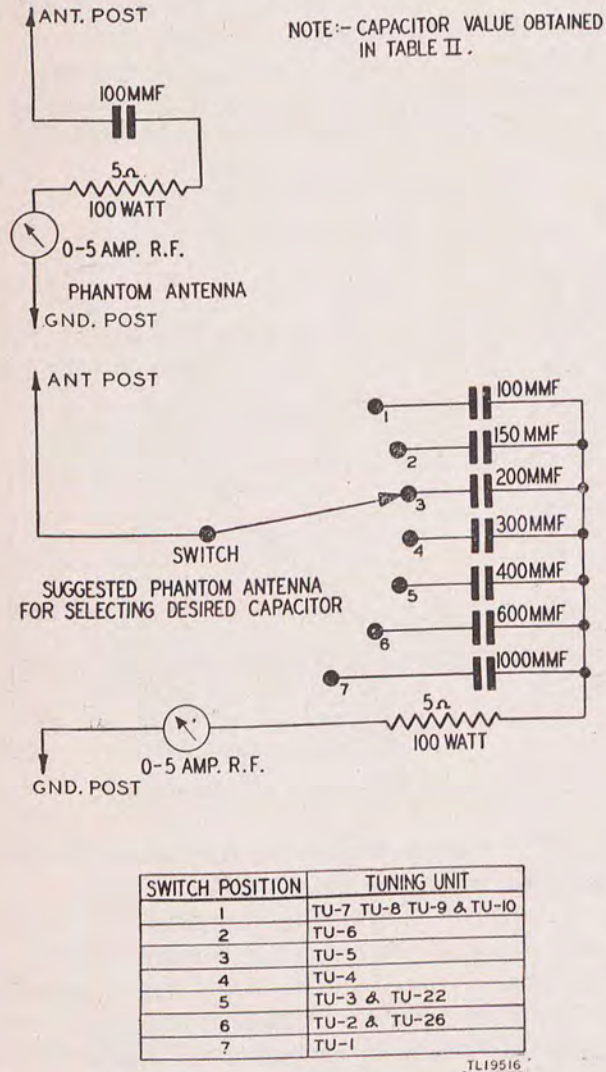

Figure 13. Phantom antenna for power output tests, schematic diagram.
(5) For more general information on checking modulation, see TM-11-4000.
**c. POWER OUTPUT.** Measurement of power output may be made with the phantom antenna. See figure 13, and table II. When testing power output over a definite frequency range, 1,500 to 3,000 kilocycles for example, use a 200-mmf capacitor and a 5-ohm resistor. The procedure for all frequencies is to tune the phantom antenna to resonance. Under these conditions, the power factor of the circuit becomes unity, leaving the 5-ohm resistor as the total impedance into which the transmitter works. When resonance is established, the r-f ammeter readings will be proportional to the power output. Over the 1,500- to 3,000-kilocycle range, the ammeter reads approximately 2.82 amperes for 40 watts
output. Operate the transmitter with the TONE-C.W.-VOICE switch in the C.W. position while making these checks. During the test, maintain the input voltage to the dynamotor as near as possible to 14 volts. An external radio-frequency ammeter with a range of 0-5 amperes is used to read the current in the dummy load and is connected as shown in figure 13. The meter must always be connected in the ground side of the dummy load. Use the values for different frequencies as shown in table II. The transmit-